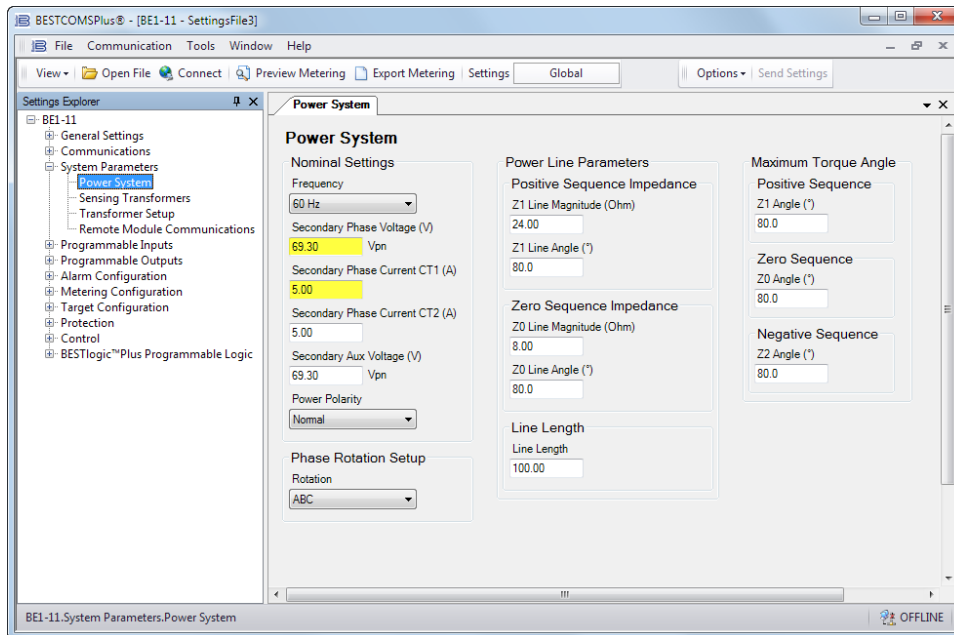

Figure 2-10. Power System Screen
- Step 5: In the Settings Explorer, click the "+" next to BE1-11. This expands the sub menus in the tree. Now expand System Parameters and select the Power System screen. See Figure 2-10.